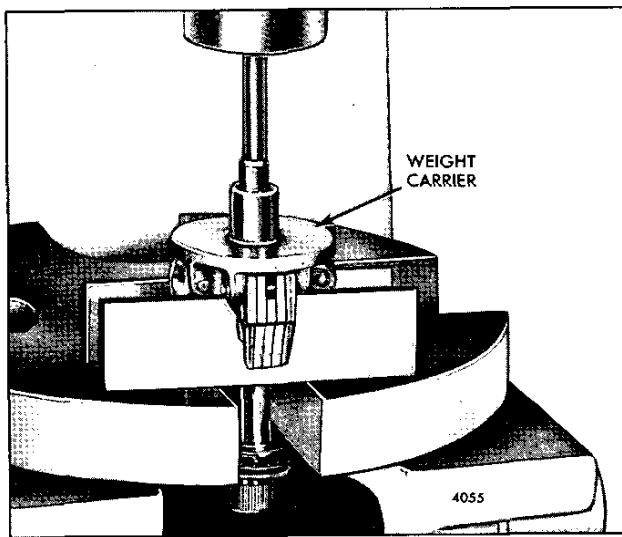

Fig. 11 - Removing Shaft from Weight Carrier
2. Press the governor weight carrier from the shaft (Fig. 11).